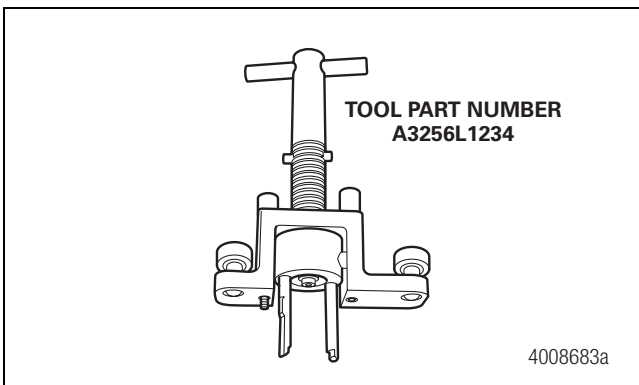

Figure 10
- Install the spring compression tool over the DCDL bore and finger tighten the retaining screws. The ends of the tool fit through recesses in the housing bore and around the fork. Figure 10.